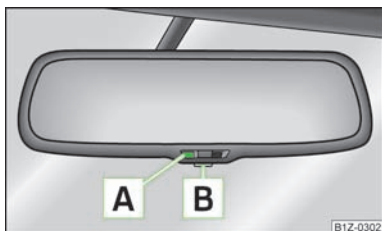

Fig. 38
- Press the button **B** » Fig. 38, the indicator light **A** lights up.